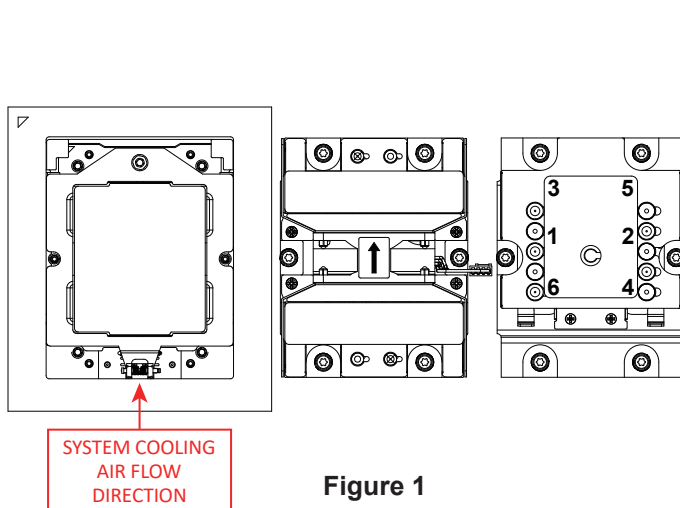
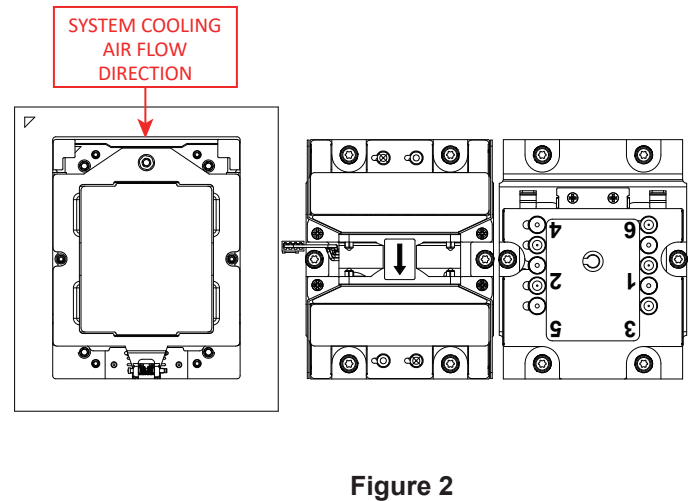

Figure 1
Figure 2
1. Take out the heatsink from its packing box. Before installing the heat sink, please check that heat sink must be properly oriented to the system cooling air flow direction (Figure 1 & Figure 2).